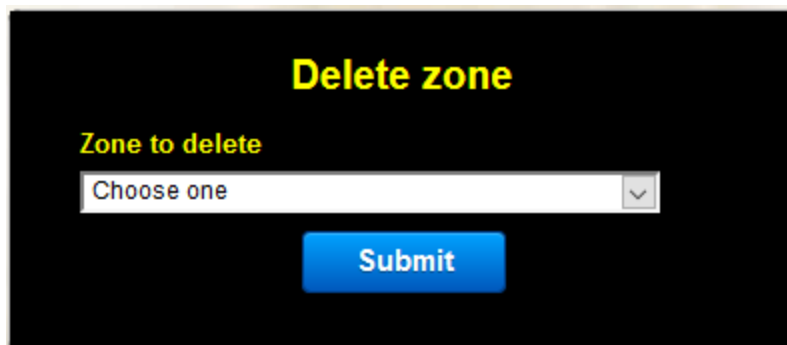

Fig. 19
1. This form allows you to delete a zone.(See fig. 19) If a zone is no longer needed in the logbook you can delete it from your location.